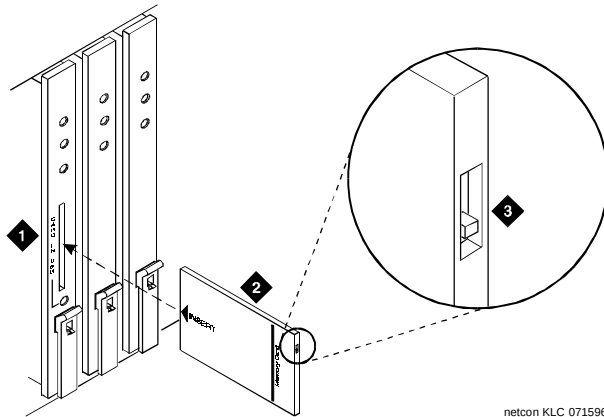

Figure 11-1. Record Switch on DEFINITY Translation Card
6. Verify the switch on the outside edge of the memory card is in the down position to record (see Figure 11-1).
7. Insert the original translation card into the slot on the TN777B faceplate. (See Figure 11-1.)